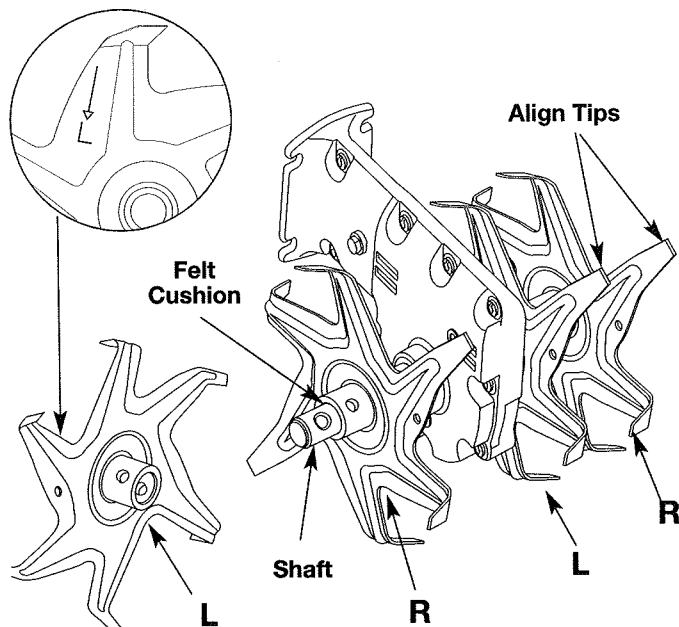

Fig. 22
7. Ensure the tips on tines are aligned in the same direction with each other before reinstalling the clevis pins and pin clips (Fig. 22).